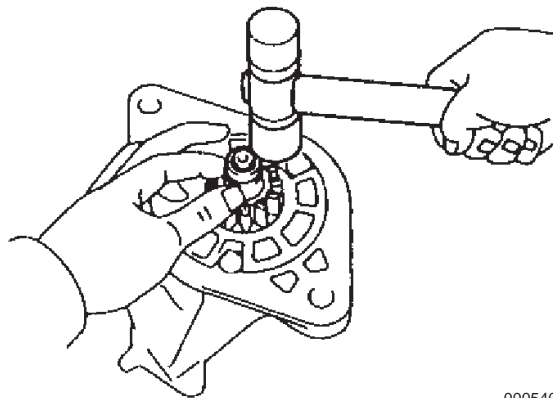

Figure 10-21
1. Press down the pinion gear and starter housing and tap in the stop collar with a plastic hammer (**Figure 10-21**).